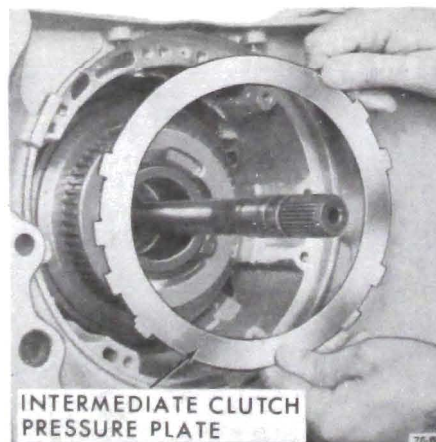

Figure 75-262
1. Install intermediate clutch pressure plate. See Figure 75-262.